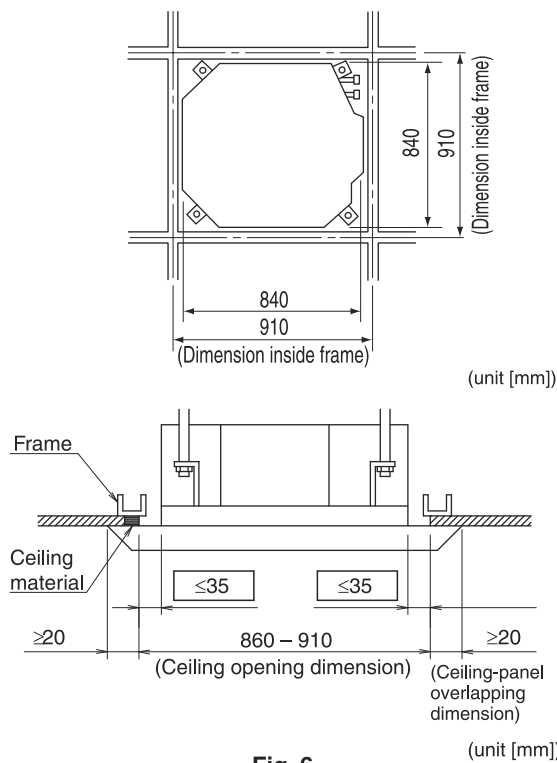

Fig. 6
- If the distance exceeds 35 mm, attach a ceiling material to the part marked  or replace the ceiling. (Refer to Fig. 6)